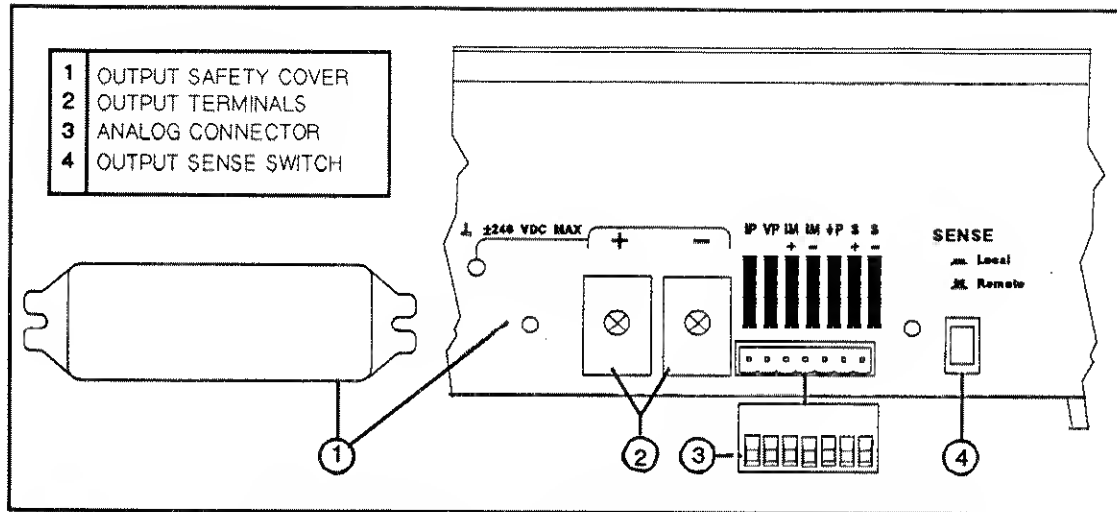
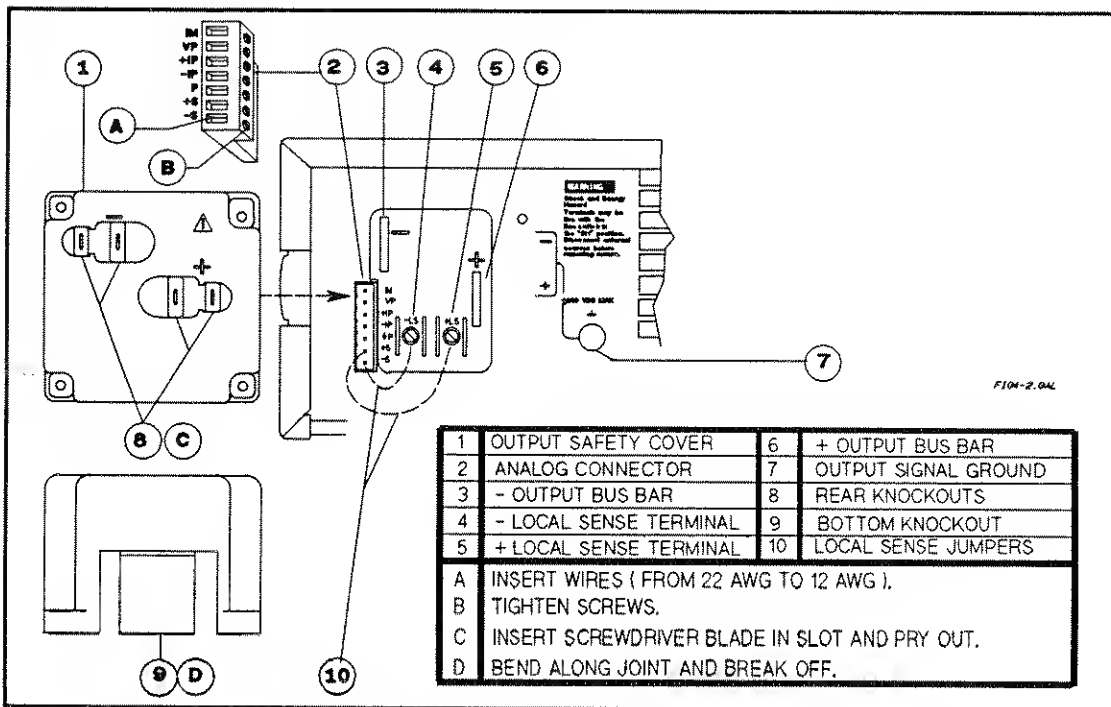

Figure 4-1. Series 654xA and 655xA Rear Panel Connections
Figure 4-2. Series 657xA Rear Panel Connections
The + and - load connections are made at the rear panel. Depending on the model (see Figure 4-1 or Figure 4-2), either terminals or screw-down bus bars (+ and -) connect the load to the power supply. The general procedure is as follows:
- make a suitable opening in the output safety cover by removing one or more cover knockouts (see Figure 4-2)
Local sensing is obtained by placing the **SENSE** switch (see Figure 4-1) in the **Local** position. The power supply is shipped with the switch in this position.
Remote sensing is obtained by placing the SENSE switch (see Figure 4-1) in the Remote position. The power supply is shipped with the switch in the Local position.